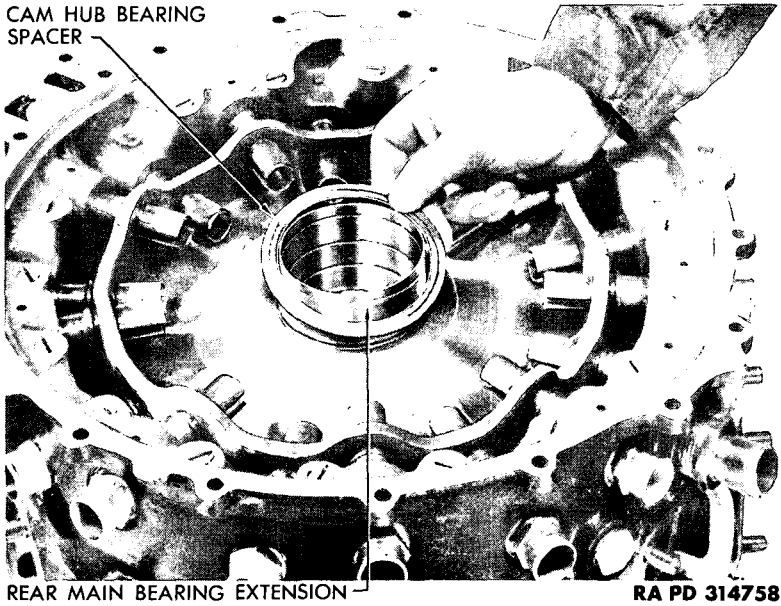
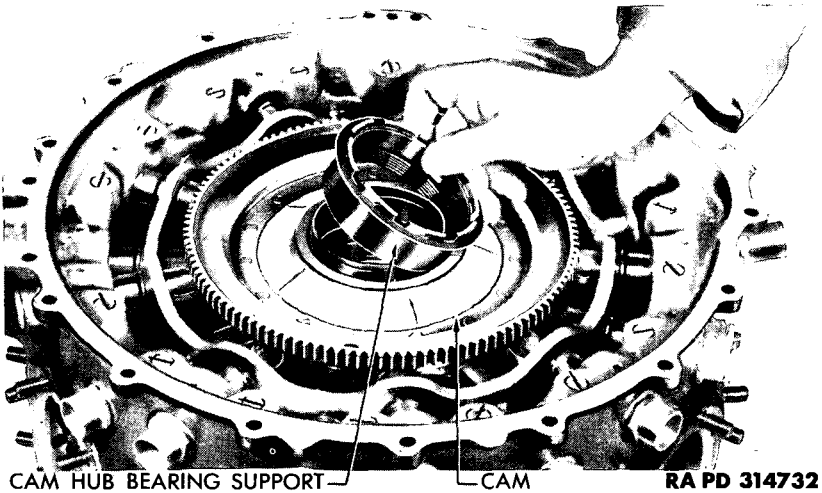
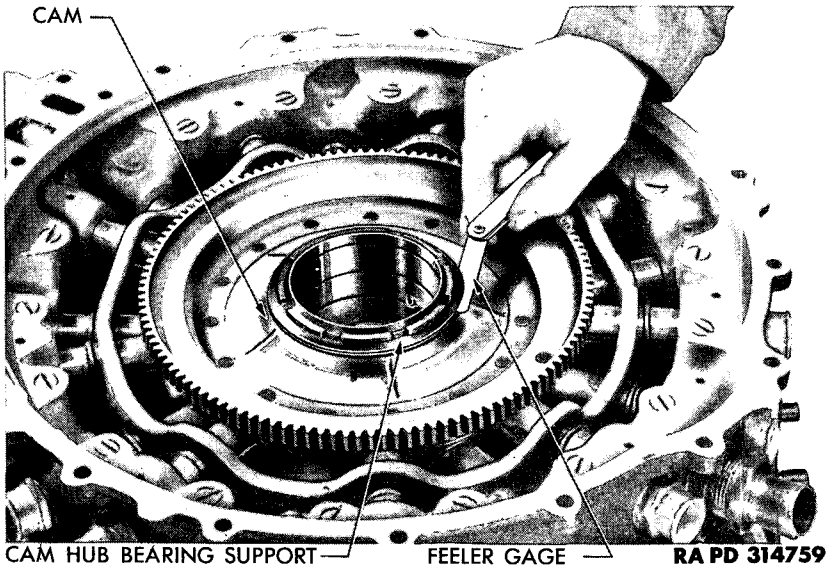

Figure 95 – Installing Cam Hub Bearing Spacer
Figure 96 – Installing Cam Hub Bearing Support
Figure 97 – Measuring End Play of Cam Using Gage 41-G-400
(1) **INSTALL AND CHECK CLEARANCE.** Place spacer for cam hub bearing over main bearing extension (fig. 95). Place cam ring on spacer. Install cam bearing support on rear main bearing extension (fig. 96), and tighten support with wrench. Check the clearance between the cam bearing support and the upper face of the cam bearing with a feeler gage (fig. 97). Clearance should measure between 0.003 and 0.005 inch, loose fit. If clearance exceeds 0.008 inch, replace bearing.
(2) **ADJUST TAPPET ROLLERS.** Check position of cam lobes against tappet rollers. If rollers do not ride squarely on lobes, change the cam hub bearing spacer (fig. 95). If spacer is too thick, grind it to proper thickness. If spacer is too thin, replace with one of proper thickness. Spacer is of proper thickness when tappet rollers ride squarely on cam lobes.